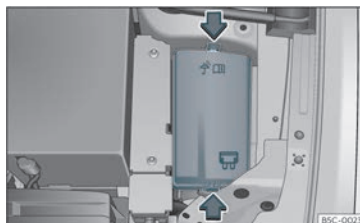

Fig. 52 In the engine compartment: fuse box cover.
- Press the locking tabs to release the fuse box cover»» **Fig. 52**.